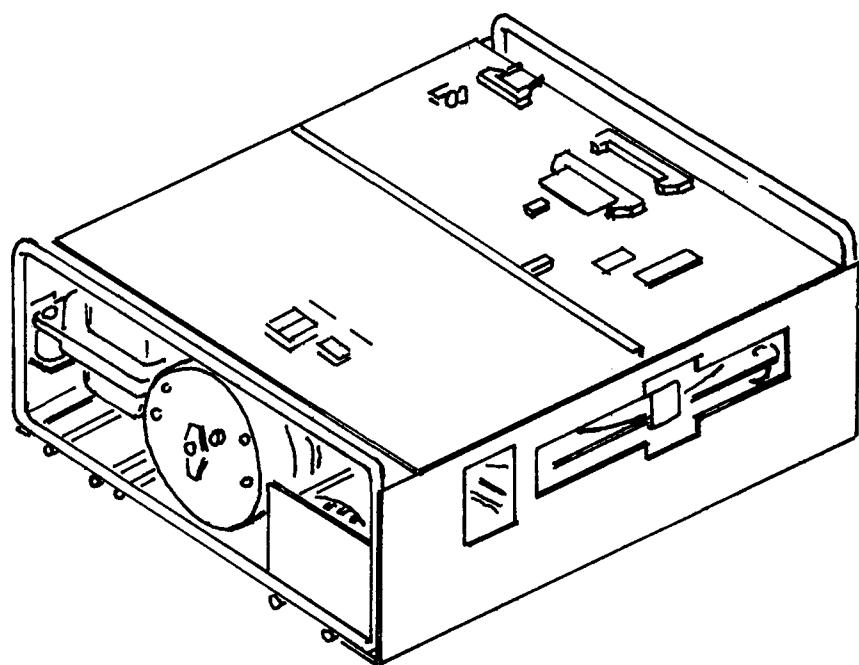

Figure 1-1. Model 2460 Fixed Media Disc Drive
1.1 General Description (Figure 1-1)	1-1
1.1 GENERAL DESCRIPTION (FIGURE 1-1)